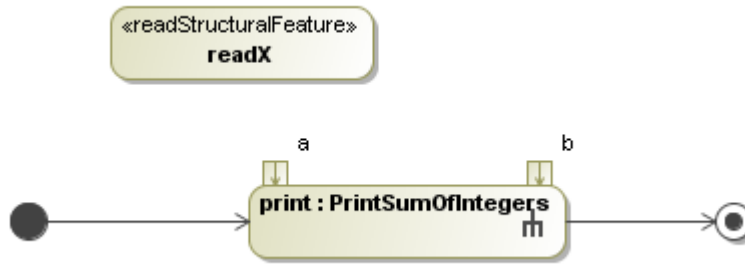

Figure 57 -- Activity Diagram with readX Action
- Click the **PrintSum** activity diagram to create the action and name it “readX” (Figure 57).